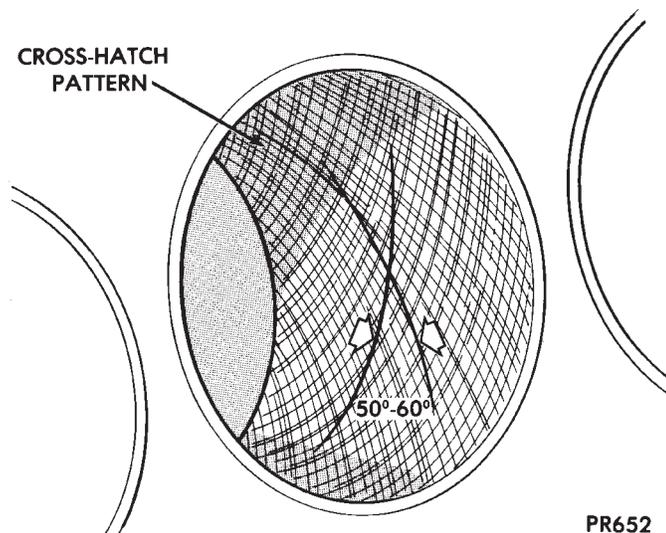

Fig. 1 Cylinder Bore Cross-Hatch Pattern
(2) Deglazing of the cylinder walls may be done using a cylinder surfacing hone, Tool C-3501, equipped with 280 grit stones (C-3501-3810) if the cylinder bore is straight and round. 20-60 strokes depending on the bore condition will be sufficient to provide a satisfactory surface. Inspect cylinder walls after each 20 strokes. Use a light honing oil available from major oil distributors. **Do not use engine or transmission oil, mineral spirits or kerosene.**
(3) Honing should be done by moving the hone up and down fast enough to get a cross-hatch pattern. When hone marks **intersect** at 50-60 degrees, the cross hatch angle is most satisfactory for proper seating of rings (Fig. 1).